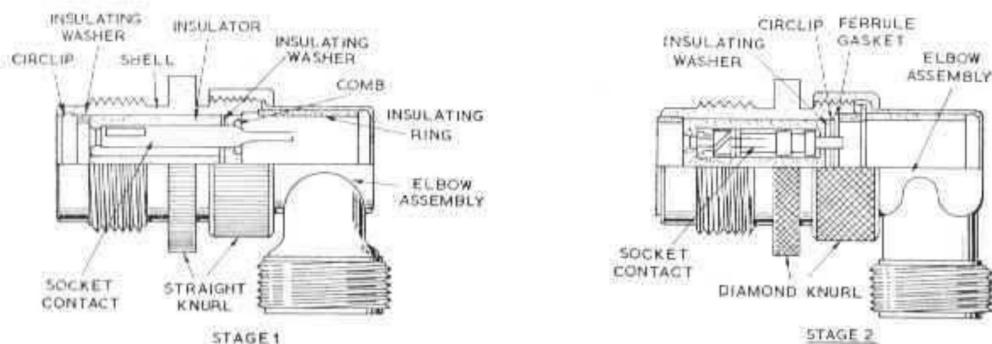

Fig. 14. Free unit (short reach), stages of development
30. This style of unit (fig. 14) was manufactured in aluminium only and differs from the normal free unit (at stage 1) in that the rear of the shell is shorter and accommodates a brass elbow outlet fitting with a dull nickel-plated finish. The unit was designed to be easily withdrawn where space is limited. Other differences are as follows:—the insulating sleeve is replaced by an insulating ring; the long insulator is of bakelite and contains rolled type contacts; the coupling nut and the shell rim have a straight knurl.
32. Units at this stage (fig. 14) are available with aluminium or steel shells and differ from those at stage 2 in that the elbow assembly is modified; the insulator is shorter and together with the comb insulator are of alkyd; the ferrule gasket and the insulating rings are of silicone rubber. This style of unit is designed to operate between ambient temperatures of -65 degrees C. and +150 degrees C. The sealing gasket is not included in the assembly but is supplied with the unit in case it should be required (viz. when the unit is mated with an early type of fixed unit).